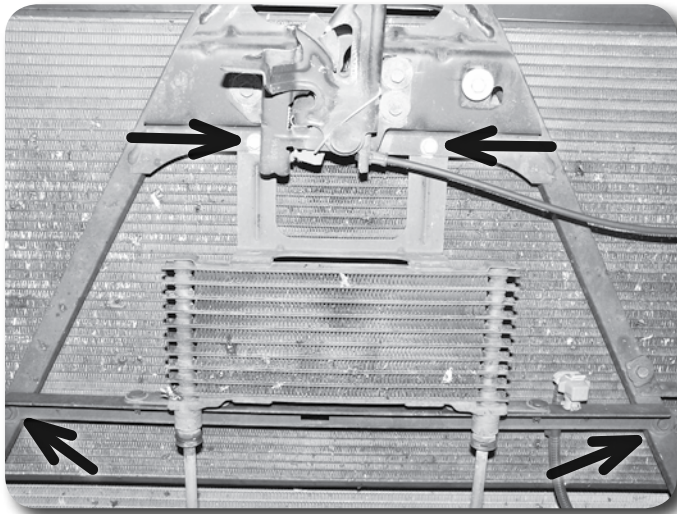

Figure 3
4. Remove the 4 bolts mounting the transmission cooler to the core support Figure 3. Pull the cooler forward, free from the core support mount. Save bolts.